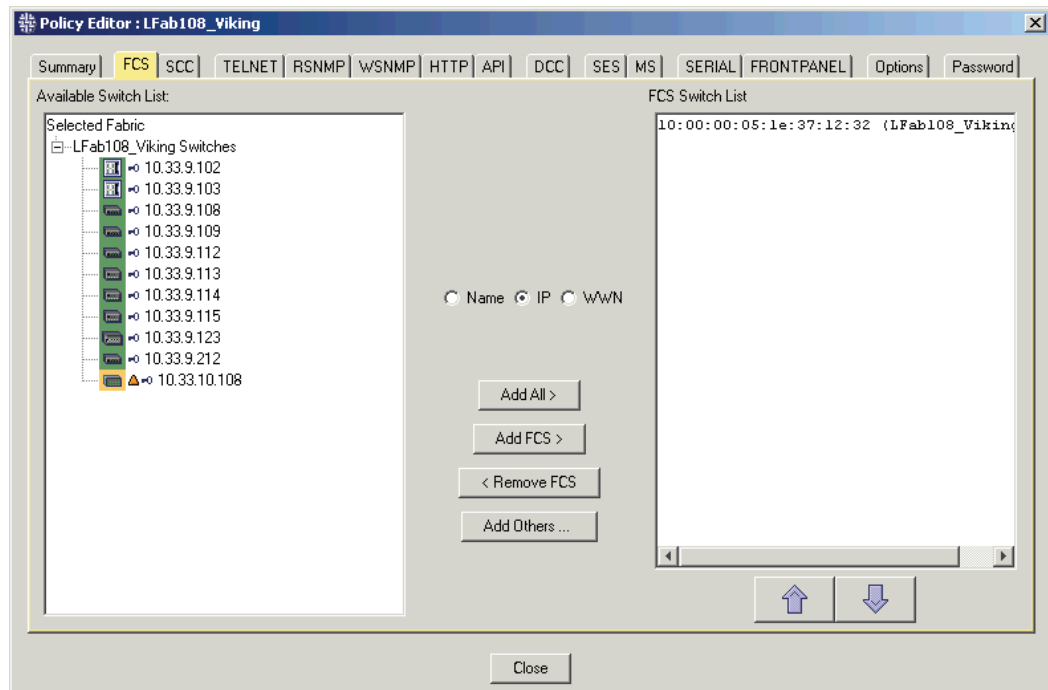

Figure 17-4 Configuring the FCS Policy
2. Click the **FCS** tab (see Figure 17-4 on page 17-5).